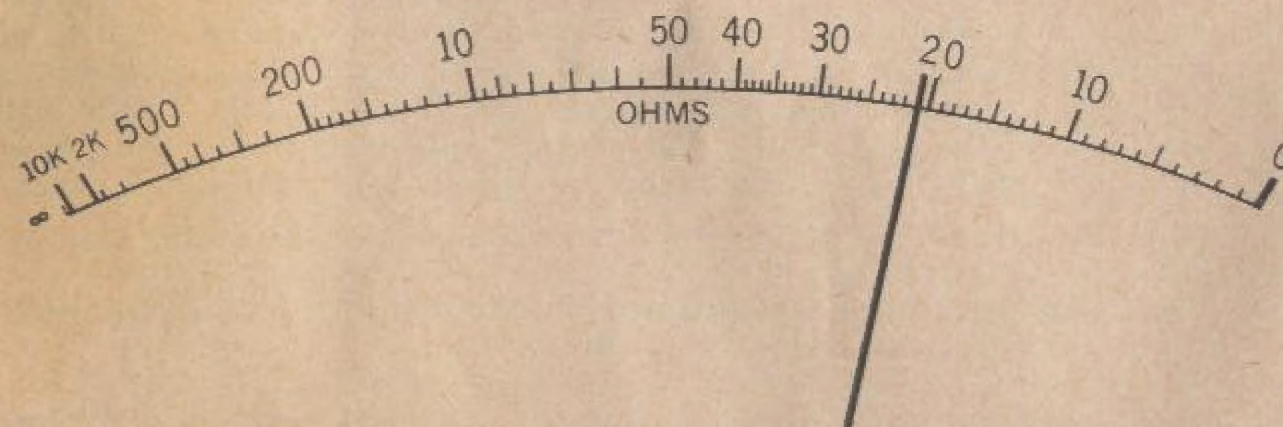

Figure 17—10K Ohms Scale
5. A resistance is to be measured and the 10K ohms scale is being used, the pointer comes to rest one division above the 20 point. This is shown in Fig. 17. Since each division between 20 and 30 represents 1 ohm, the